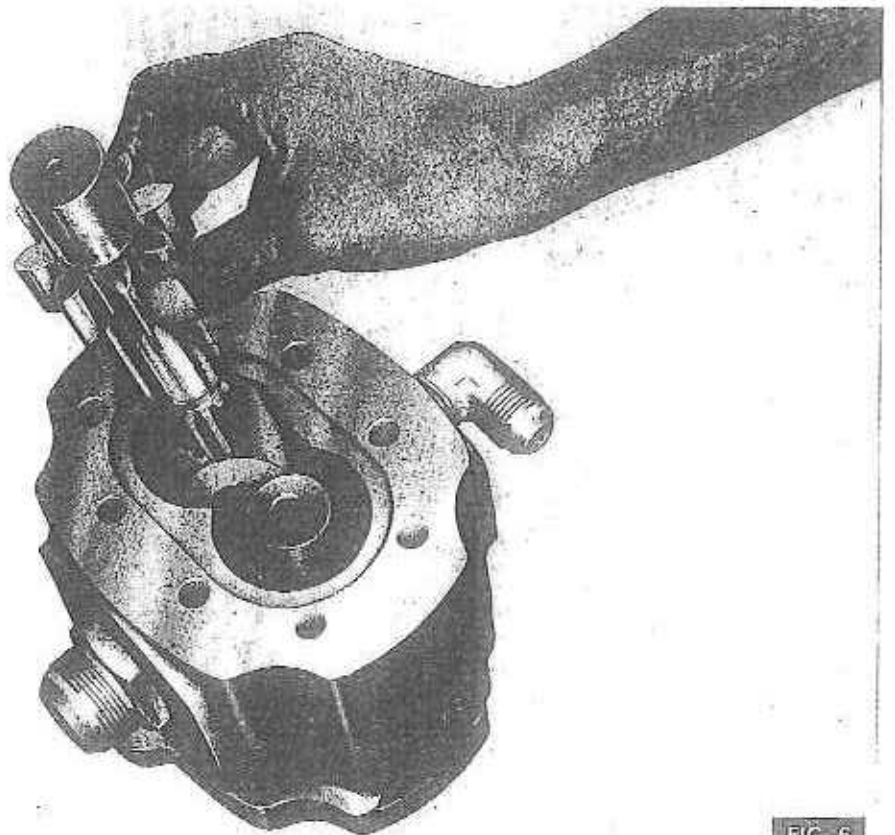

FIG. 6
6. (Fig. 6). Slide the gears out of the pump body.